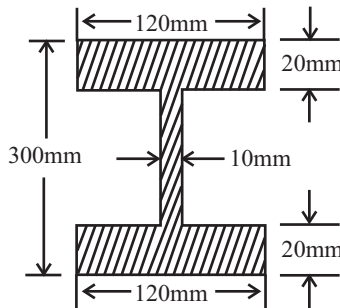

Fig. 5.3
- (e) Calculate the maximum tensile and maximum compressive stress developed in the cross-section of beam in Fig. 5.3 subjected to a moment of 30 kNm.